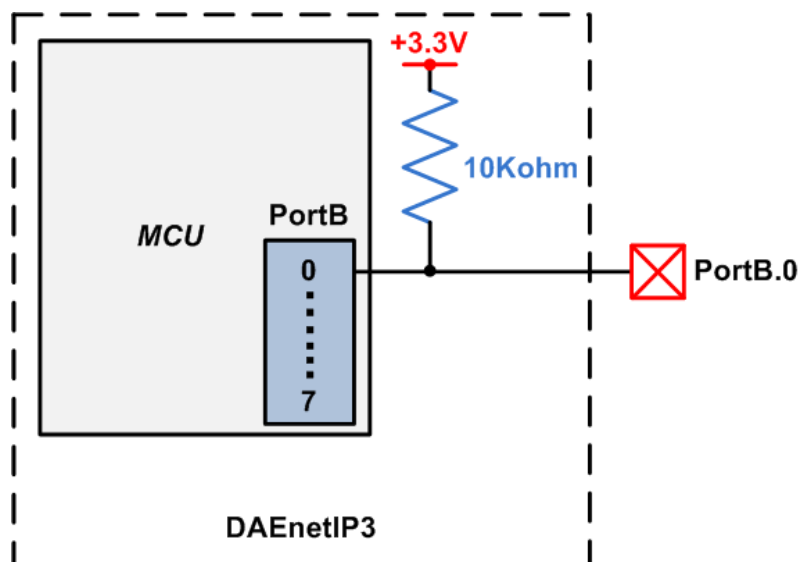

Figure 75. Port B – 8 x digital input lines
DAEnetIP3 has 8 digital inputs port. This port is called Port B. Each output line has pull-up resistor 10 Kohm to 3.3V (figure 75). When the input is not connected, its state is high (1). **Be careful, the inputs are connected directly to the MCU pins. Incorrect connections or overvoltage may damage the DAEnetIP3 controller !**